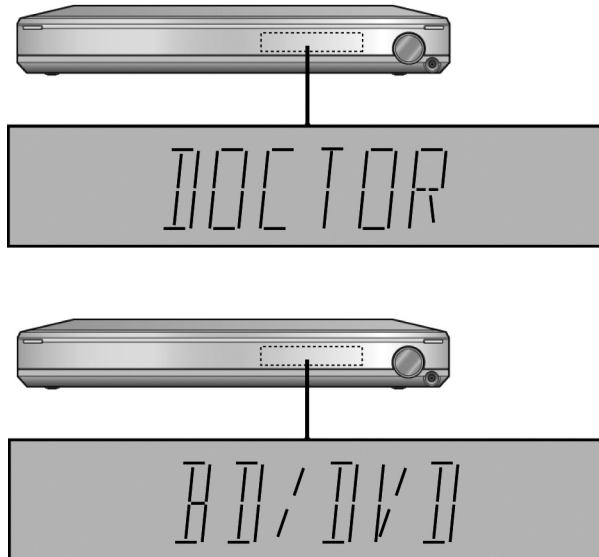

Fig. 2
2. The message, “_DOCTOR_” appears on the display for three seconds, and then it will display the following. Refer to Fig. 2.